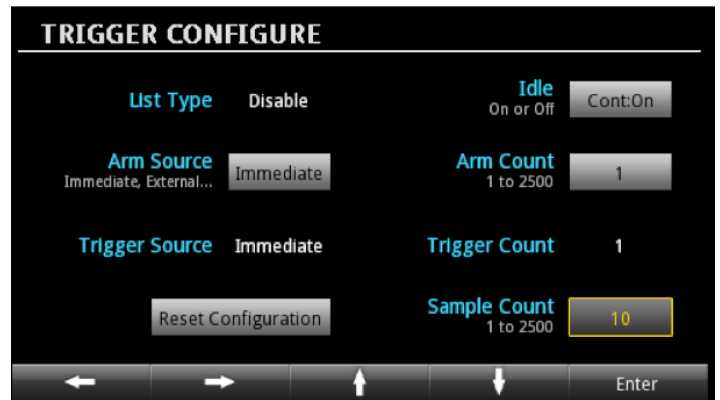

Figure 8. Series 2280S trigger settings for low current measurements
- Set the Sample Count to 10 to match the filter count (*Figure 8*). This will fill the averaging filter with 10 back-to-back readings with very little time between readings.